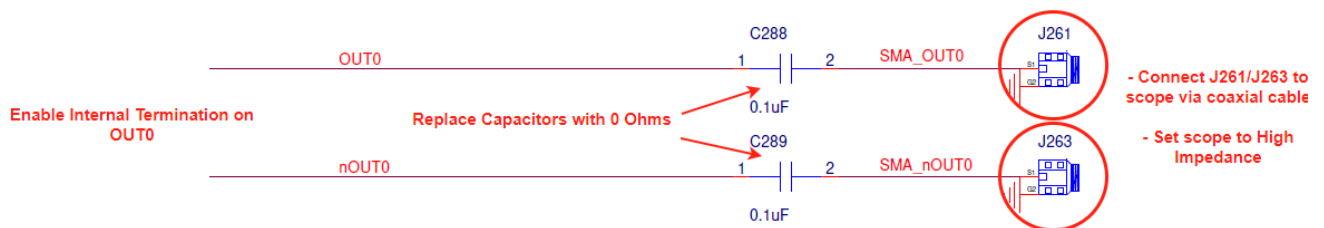

Figure 8. Probe Points of HCSL Internal Termination Mode
- Figure 8. Probe Points of HCSL Internal Termination Mode4